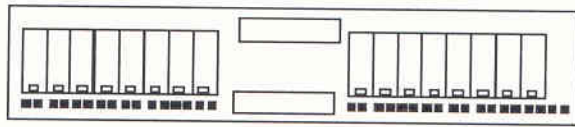

Figure 21 - Links for 2MB shown in black. Make these links with the small jumpers supplied
- (4) Taking static precautions remove the 16 41256 memory chips and place them to one side. You will not need these again.
- (5) Put the supplied seventeen jumpers over the vertical prongs marked L1 to L17 as shown in figure 21 If you have lost these jumpers, you can get a new set by sending a cheque for £2.00 to Frontier.